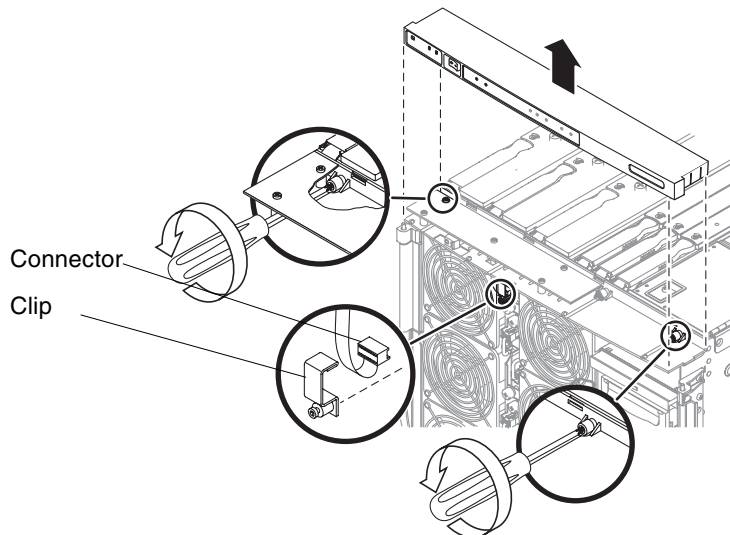

FIGURE 10-3 Removing the System Indicator Board Connector and Connector
10. Remove the clip on the fan tray retaining the system indicator board connector. Remove the connector (FIGURE 10-3).
11. Loosen the two captive screws securing the indicator board to the top of the chassis (FIGURE 10-3)
12. Remove the module and place it on an ESD mat (FIGURE 10-3).
2. **Secure the indicator board using two captive screws (FIGURE 10-3).**
3. **Connect the indicator board connector to the receptacle at the top of the fan tray. Replace the retaining clip (FIGURE 10-3).**